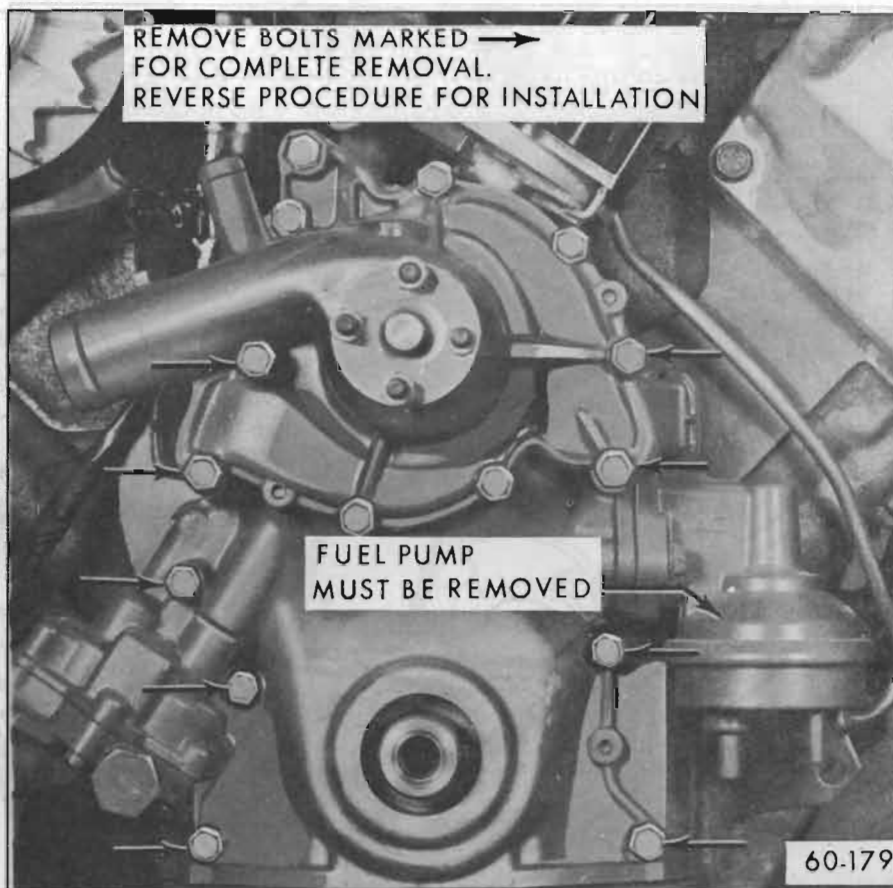

Figure 60-243—Timing Chain Cover Installation
4. Lubricate the bolt threads before installation and install as shown in Figure 60-243.